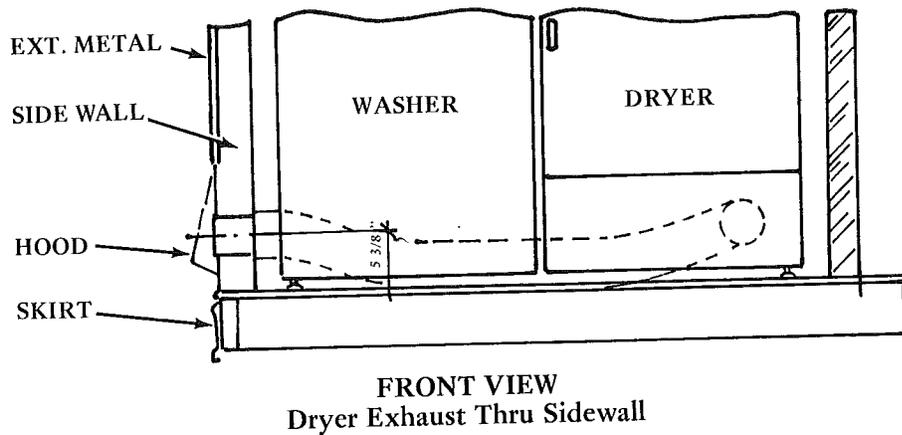

Figure 33
3. The exhaust system shall be completed on site as shown with materials provided by the owner. See Figure 33 and 34.